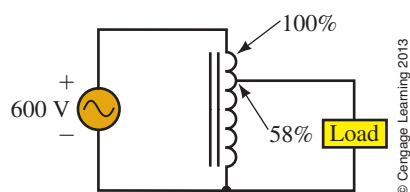

FIGURE 23–38
6. For the circuit of Figure 23–37, what is the power delivered to a 4-ohm speaker? What is the power delivered if an 8-ohm speaker is used instead? Why is the power to the 4-ohm speaker larger?